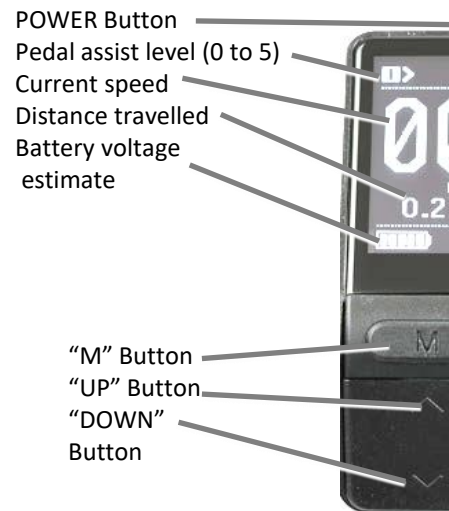

Figure C2: LCD Display panel.
- Note that the Battery level indicators on the display (Figure C2, 5) will only show an estimate of the battery charge level when power is not being drawn from the battery (bike standing still). While using motor assistance voltage will decrease.
The LCD display panel (Figure C2) controls a number of features on your ebike.
-To activate "Pedal Assist" push "UP" button briefly to increase the power and speed, push "DOWN" button briefly to decrease the power and speed. "Pedal assist" means that the motor will be activated when you start pedalling and the bike will move forward with motor assistance while you are pedalling. The more arrows on the top of the Display (Figure C2), the higher the pedal assistance level. 0 means NO pedal assist, 5 means maximum pedal assist. At lower assistance levels the motor will accelerate to lower speeds. At maximum assistance the motor will accelerate to approximately 25 km/h.